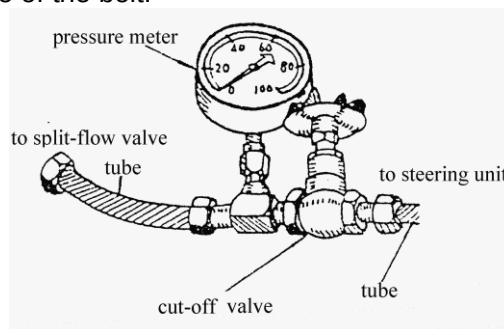

Fig5.5 Measure the pressure
(5) Measure the pressure with pressure meter (15-20MPa), cutoff valve and soft tube in Fig. 5.5.